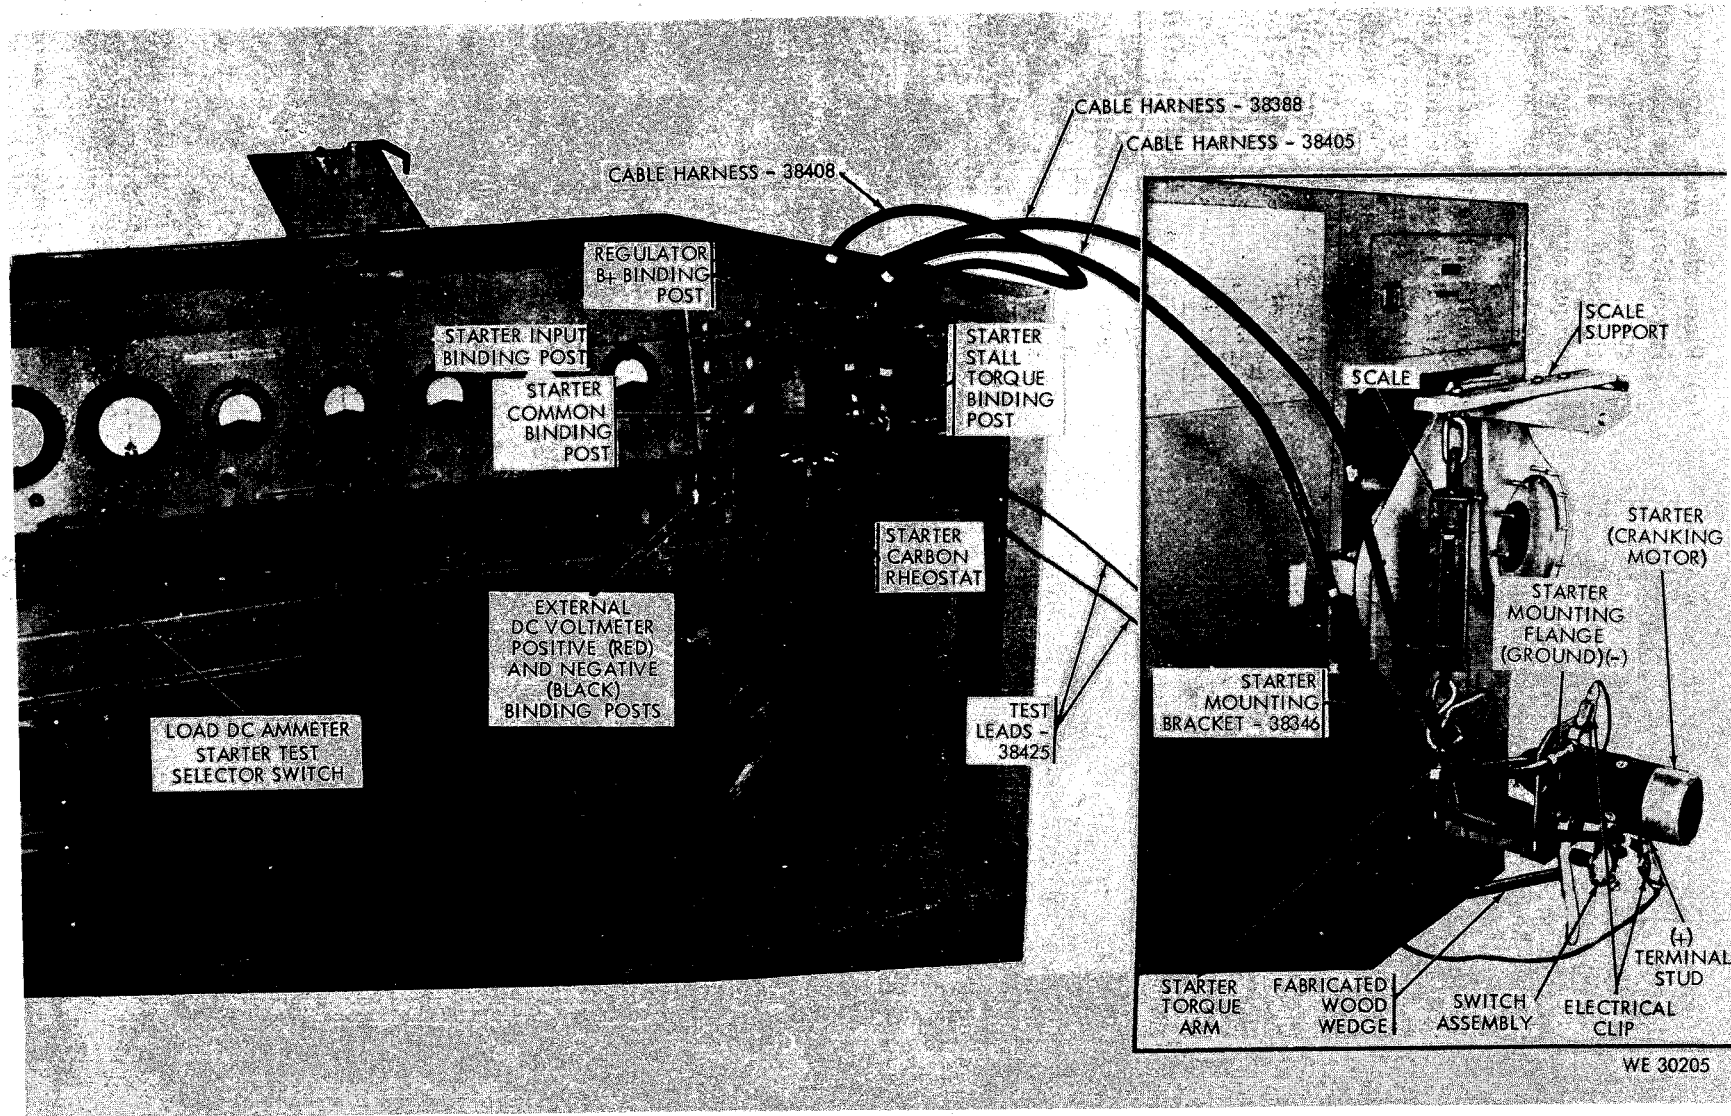

Figure 61. Testing starter (cranking motor) for stall torque (measuring stall current and torque).
g. For stall torque tests within 200 ampere capacity, one cable harness 38405 (fig. 61) is connected between the starter input binding post (fig. 61) and the starter (cranking motor) (+) terminal stud (fig. 61).
h. For stall torque tests above 200 amperes capacity, two cable harness 38405 (fig. 61) are connected in parallel between the starter input binding post (fig. 61) and the starter (cranking motor) (+) terminal stud (fig. 61).
(b) Place the load dc ammeter starter test selector switch (fig. 61) in the "free run (X4)" position.
(2) Preparation.
- (a) Connect the starter (cranking motor) and prepare the test stand as prescribed in *a*(3) above, except for the instructions in *a*(3) (*c*) above change as follows: Connect the regulator B+ binding post of the test stand to the starter stall torque binding post of the test stand using a cable harness 38408 (fig. 70) as shown in figure 61.
Note. Refer to figure 61 when making connections above and procedures prescribed below.
Caution: When connecting starters (cranking motors) having a capacity above 200 amperes use two (2) cable harnesses 38405 between the starter input binding post of the test stand and the (+) terminal stud of the starter (cranking motor) (fig. 61).
- (b) Place a fabricated wood wedge (fig. 27) between the base of the test stand and the lever of the switch assembly of the starter (cranking motor) to hold the pinion gear of the starter (cranking motor) in an exposed position (fig. 61).
- (c) Place the scale support (fig. 61) in position on the test stand and secure loosely. (Scale support is tightened securely after scale and torque arm are alined, (*d*) below.) Hooks the scale on the scale support (fig. 61).
- (d) Position the jaws of the torque arm (fig. 61) over the pinion gear of the starter (cranking motor) and hook the free end of the starter torque arm on the scale, (*c*) above, (fig. 61). Adjust the scale support outward or inward until the torque arm and scale are alined, then tighten the scale support securely, *c* above.
Caution: When installing the torque arm (fig. 61) be sure the jaws of the torque arm are placed over and in the teeth of the pinion gear of the starter (cranking motor) correctly to allow the gear to throw the arm downward, also, always tighten the screw on the torque arm jaws to secure them in place. Proper installation of the torque arm is important because starter rotation varies according to manufacture and model and is either clockwise or counterclockwise.
(3) Testing.
- (b) Place the load dc ammeter starter test selector switch (fig. 61) in the stall torque (X20) position.
- (c) Place the battery on-off switch (22) in the "ON" position and slide the safety clip (25-B) off the stop button (25-C) but do not push the start button (25-A). This will close the circuit to the switches and controls of the test stand.
- (d) Adjust the setting of the starter carbon rheostat (fig. 61) to near full resistance position by rotating it in the counterclockwise direction until a slight drag or pressure is felt. Do not turn counterclockwise completely (Refer to paragraph 81 for details).
- (e) Place the starter test load disconnect switch (15) in the "ON" position and turn the starter carbon rheostat (fig. 61) clockwise until approximately 19.8 volts are indicated on the dc voltmeter (4). The current (amperes) draw on the load dc ammeter (1) should be 200 amperes (table 9).
- (f) The foot-pounds indicated on the scale (fig. 61) should be 20 pounds (table 9).
- (h) Place the starter test load disconnect switch (15) to the "OFF" position. Adjust the starter carbon rheostat (fig. 61) to near full resistance position by rotating it in the counterclockwise direction until a slight drag or pressure is felt (par. 81).
- (i) Press the stop button (25-C) of the drive control (25) and remove the cable harness, test leads, scale, scale support torque arm, and starter (cranking motor) from the test stand.